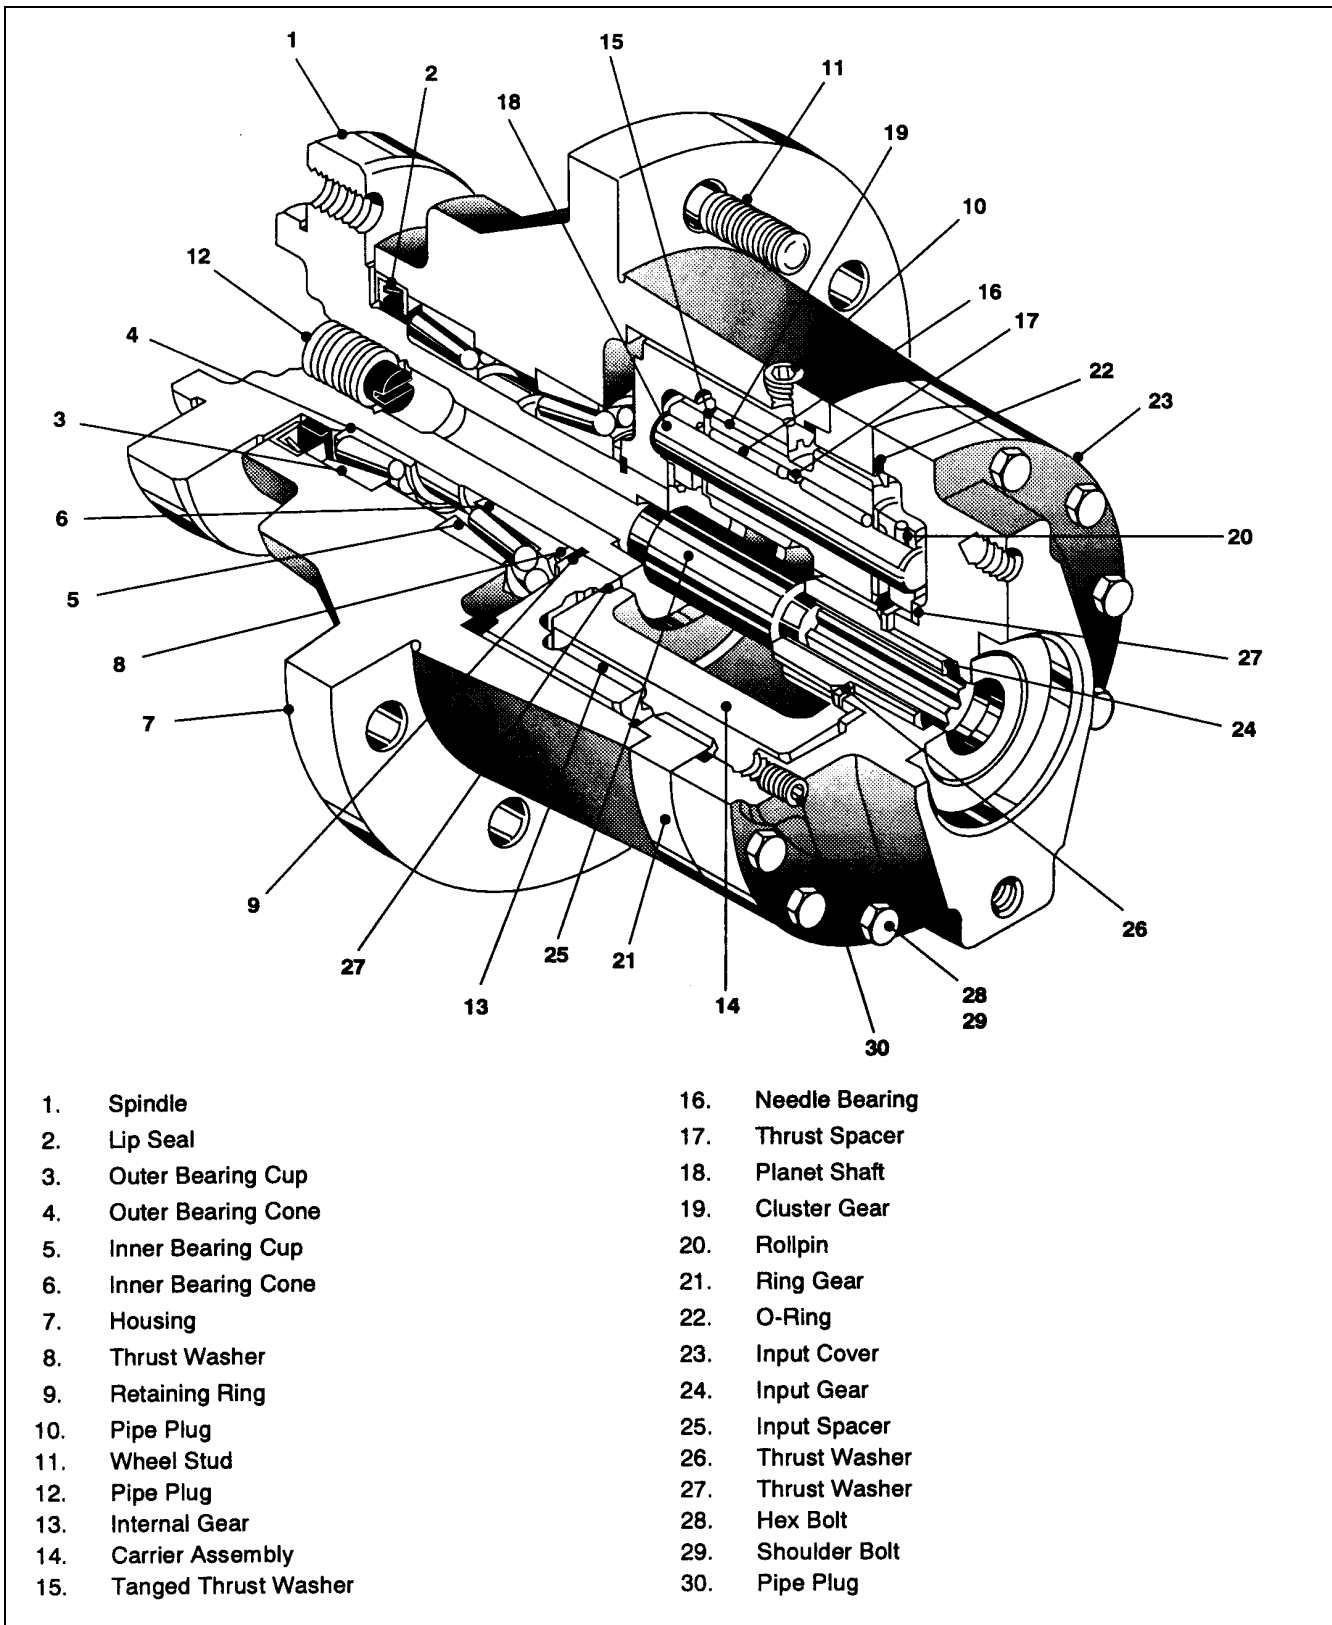

Figure 2-36. Drive Hub Assembly - 30/35/n35/40/n40/45.
1. Check oil level in the hydraulic oil tank (all booms must be retracted). See Figure 2-36 for location of bleeder fitting in pilot port "P" at rod end of mid cylinder.